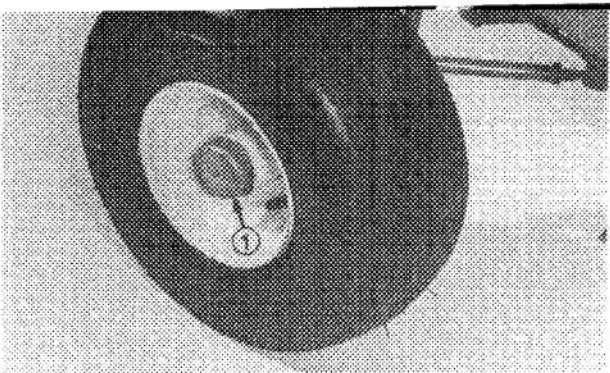

Figure 38
5. Install dust cap on end of the wheel spindle (Fig. 38).